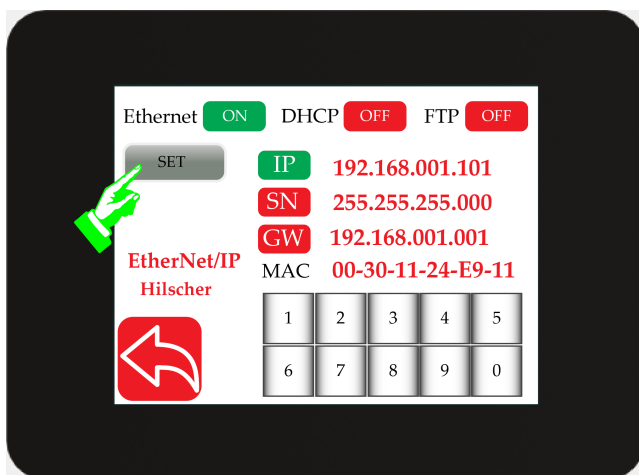

Figure 5.98: With a valid IP address the user is ready to set the new value
3. Upon entering the last digit, the controller will validate the IP address to ensure that all octets are below 256. If the validation is successful, a set button will be displayed, as shown in Figure 5.98. If the validation fails, the input value for the IP address string will be ignored and the IP address value will display all zeros. This will prompt the user to start over and re-enter the IP address, repeating the first step.